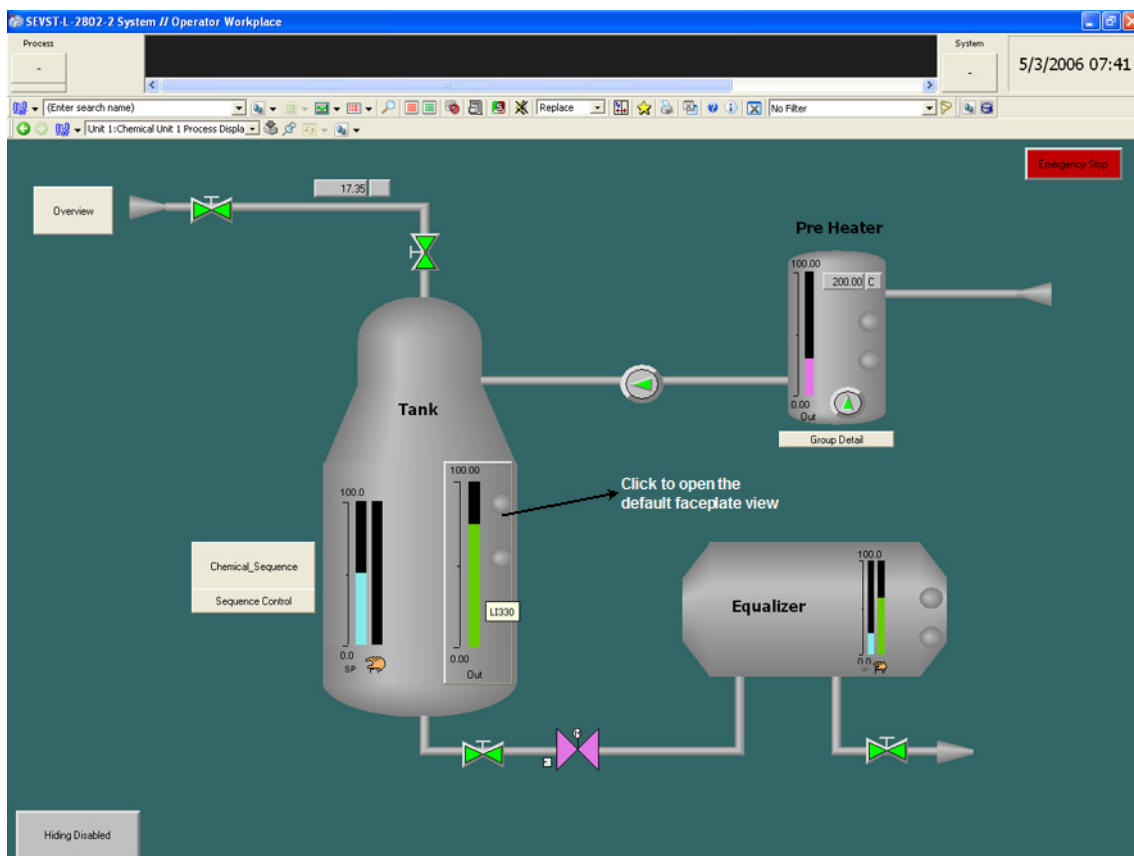

Figure 10. Graphic Display
- left-clicking on a graphic element placed on a graphic display. See Figure 10.